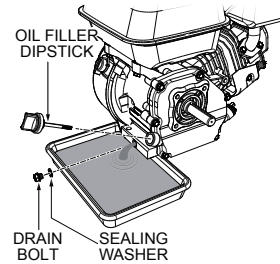

Figure 19. Engine Oil (Draining)
1. Drain the engine oil when the oil is warm as shown in Figure 19.